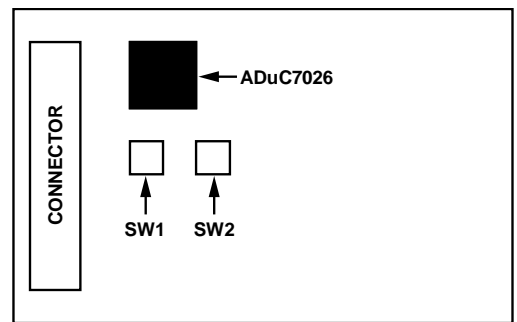
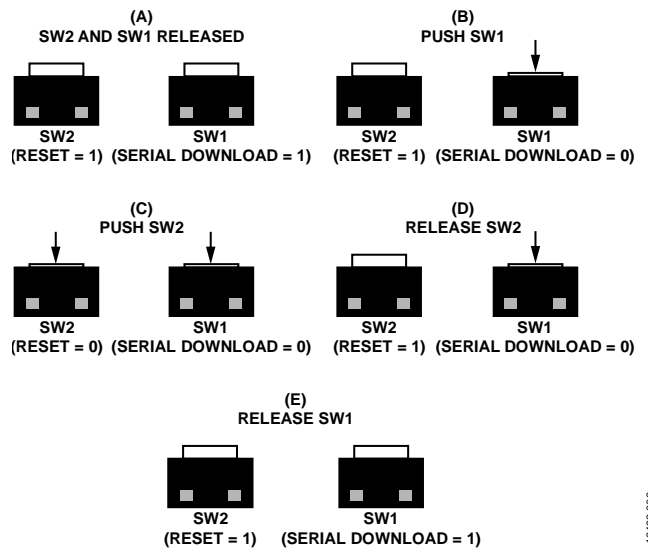

Figure 5. ISEB Switch Locations for Flashing the Microcontroller
Figure 6. Method to Press, Hold, and Release SW1 and SW2
2. Click the two buttons, **SW1** and **SW2** (shown in Figure 5) on the ISEB, in the following sequence to flash the firmware (see Figure 6):